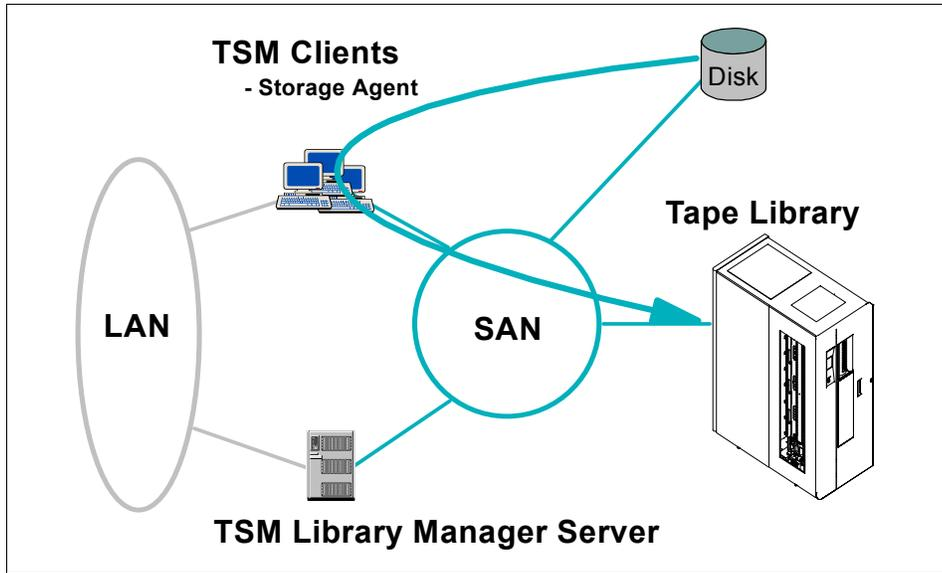

Figure 1-21 Tivoli Storage Manager LAN-free backup
*Managed System for SAN* is a feature of IBM Tivoli Storage Manager that enables LAN-free data movement. The Tivoli Storage Manager client data moves directly to and from a storage device attached to a SAN. A Tivoli Storage Manager Storage Agent is installed on the client machine and shares storage resources with the Tivoli Storage Manager server. The Storage Agent can write directly to storage media in a format that is consistent with that used by the server. The Tivoli Storage Manager server or servers control the storage devices and keep track of the data that the client has stored. Tivoli Storage Manager continues to use a LAN connection to exchange control information, such as policy information and data about the backed up objects. Using the SAN for client data movement decreases the load on the Tivoli Storage Manager server and allows the server to support a greater number of simultaneous client connections. See Figure 1-21 on page 26.